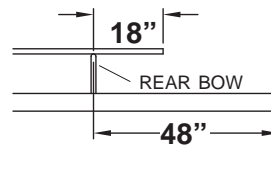

**Figure 19**
- 5) See **Figure 19**. Mark and drill 3/8" hole at latching bow. Fasten ridge pole to latching bow with rope pull link and quick link.